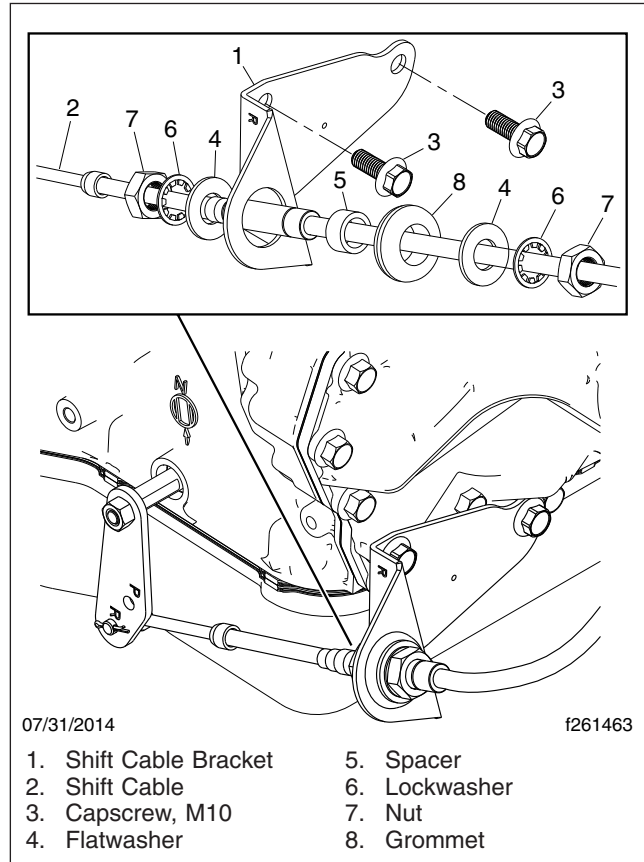

Fig. 6, Shift Cable Bracket Installation, Kit ORS 59565
21. Install the new bracket on the transmission, using the capscrews from the kit. Tighten the capscrews 38 to 45 lbf·ft (51 to 61 N·m). See **Fig. 6**.
22. Assemble the nuts, flatwashers, and lockwashers on the cable, and feed the cable through the grommet in the new bracket. See **Fig. 6** for the order of assembly. Set the position of the lower cable housing so that the range of cable adjustment is within the available threads of the cable.
25. Tighten the housing stop nut and jam nut (**Fig. 6**, items 7) against the spacer.